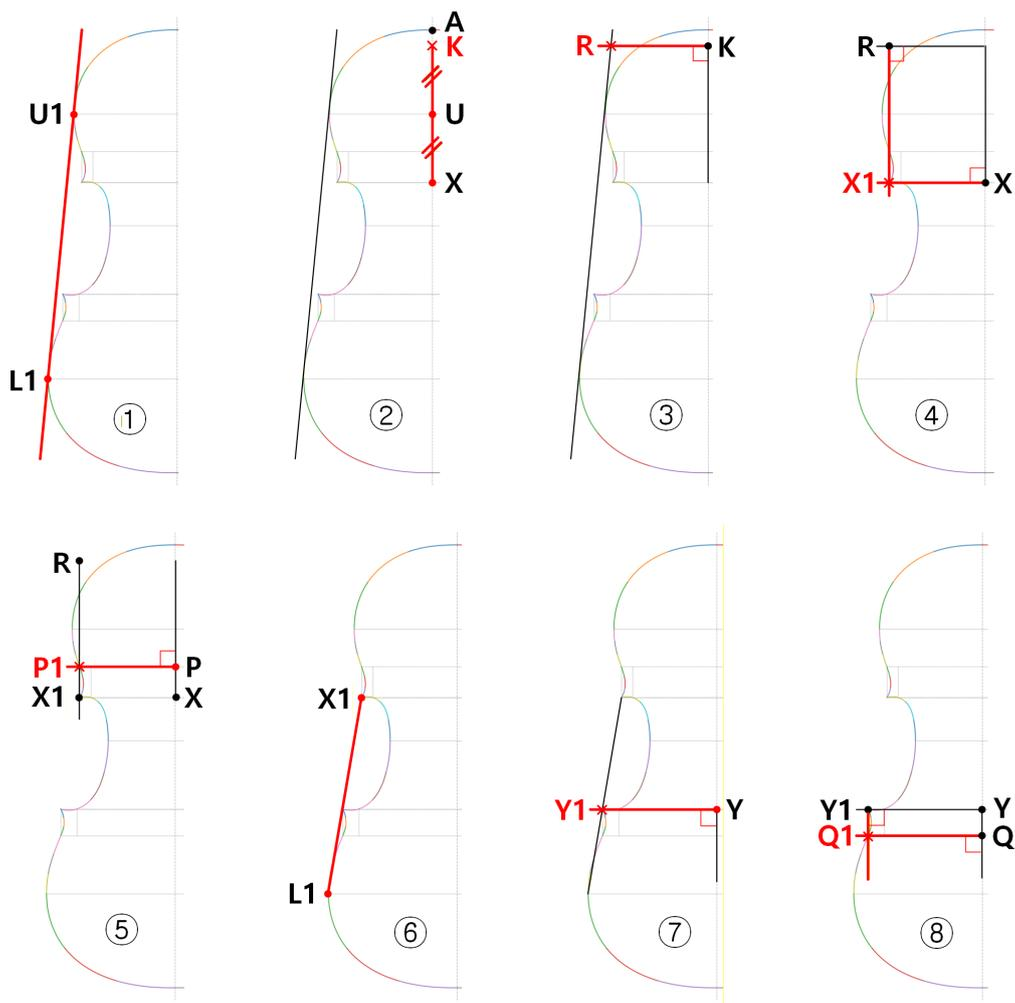

Figure 10: Method for determining corner and corner junction positions (Method of H.I.S.)
Selecting [Auto (Method of H.I.S)] automatically calculates the corner (and corner junction) widths. Selecting [Use My Value] uses the values entered directly by the user (items 13, 14, 15, 16 in Area (B)). The calculation principle for [Auto (Method of H.I.S)] is shown below. - Figure 10 -